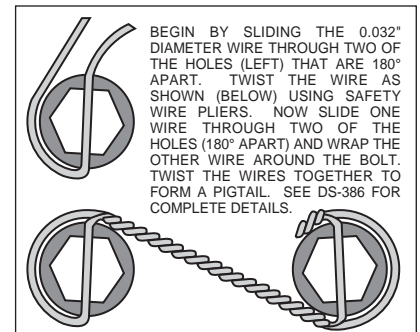

Figure 4. Safety Wire Diagram
- To accommodate several model years, multiple holes have been drilled in the caliper mounting bracket (1). Rotate the bracket until the two correct holes that align with the mounting holes in the face of the spindle are located. Apply red *Loctite*® 271 to bolt threads (2) before assembly of the caliper mounting bracket (1). Mount bracket (1) to dust face plate of spindle using bolts (2). Torque bolts (2) to 22 ft-lb. **NOTE:** Be sure the heads of the caliper bracket (1) insert nuts are facing outward toward the wheel.
- Install wheel studs (3) into the hub (4). Torque to 77 ft-lb. **NOTE:** There are two five lug patterns in the hub (5 x 4.50 and 5 x 4.75). Make sure of the correct hole pattern for the correct wheel application before installing studs into hub.
- Pack the large inner bearing cone (5) with high temperature disc brake bearing grease (available from your local auto parts store) and install into the backside of the hub (4).
- Install the grease seal (6) by pressing into the backside of the hub (4).
- Attach rotor (7) to hub (4) using bolts (8). Torque bolts (8) to 22 ft-lb. Safety wire bolts (8) using standard 0.032 inch diameter stainless steel safety wire as shown in Figure 4. Please refer to Wilwood's data sheet DS-386 (available at [www.wilwood.com/pdf/ds386.pdf](http://www.wilwood.com/pdf/ds386.pdf)) for complete safety wire installation instructions. **NOTE:** The counterbored side of the steel rotor (7) should face away from the hub (4).
- Pack the small outer bearing cone (9) with high temperature disc brake bearing grease and install into front of hub (4). Slide the hub/rotor assembly (4 and 7) with outer bearing cone (9) onto the spindle. Secure using stock washer, adjusting nut and nut locking device. Adjust bearings per Original Equipment Manufacturer (OEM) specifications.
- Install the dust cap (10) onto the hub (4). Friction created by the o-ring (11) on the dust cap (10) keeps it from unscrewing. The O.D. of the existing spindle washer may be larger than the I.D. of the dust cap (10) not allowing it to seat against the hub face. Some grinding on the washer O.D. may be necessary to clear the I.D. of the dust cap (10).
- NOTE:** Please reference the caution statement at the beginning of the assembly instructions. WITH THE BLEED SCREWS POINTING UP, mount the caliper (12) onto the caliper bracket (1) using lock washers (13) and bolts (14). Finger tighten. View the rotor (7) through the top opening of the caliper (12). The rotor (7) should be aligned in the center of the caliper (12). If not, adjust the caliper (12) by using 0.032 inch thick shims (15) placed between the caliper mounting bracket (1) and the caliper (12). Use as many shims as necessary to obtain the correct alignment. Finger tighten. Apply red *Loctite*® 271 to bolt threads (14) and torque to 30 ft-lb. Safety wire caliper bolts (14).
- Install the disc brake pads (16) and secure using retainer clip (17).